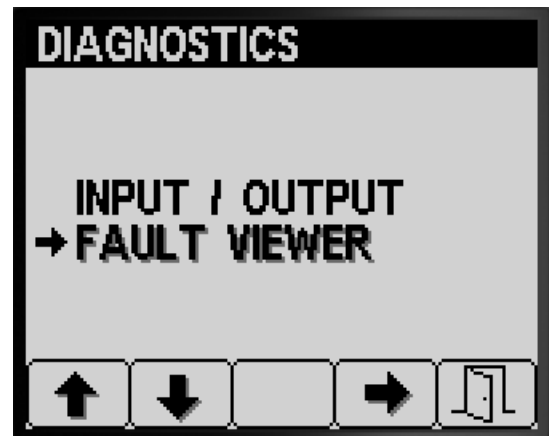

Figure 86
1. Press button 1 or 2 on the Diagnostics screen until you reach the FAULT VIEWER option (Figure 86).
2. Press button 3 to select the FAULT VIEWER entry (Figure 86).